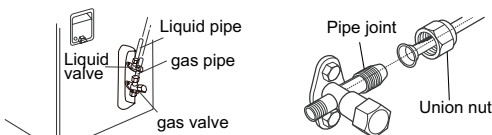

Fig.22
- (2) Remove the screw cap of valve and aim the pipe joint at the bellmouth of pipe.(As show in Fig.22)